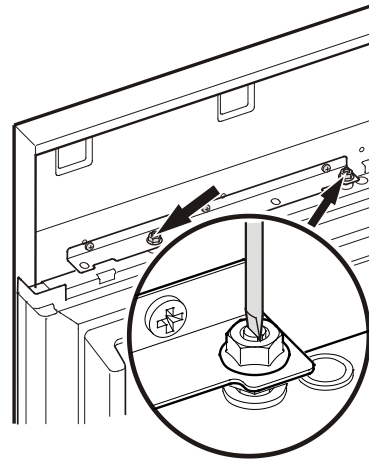

Figure 23
6. Align the panel in its vertical position if necessary. Loosen the hex nuts and turn the adjusting bolts using a screwdriver for slotted screws. **Figure 23**.